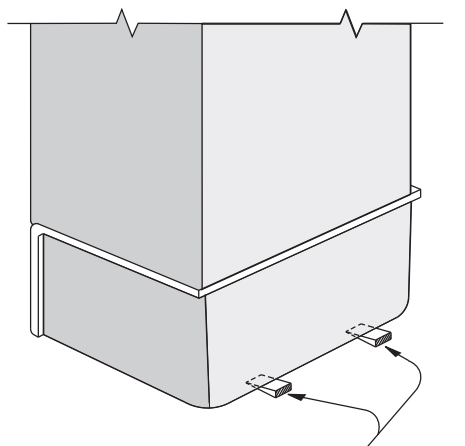

Figure 1 Wood Support Shims
3. Placement of the two wood shims is recommended to provide bottom structural support of the base unit. See *Figure 1*